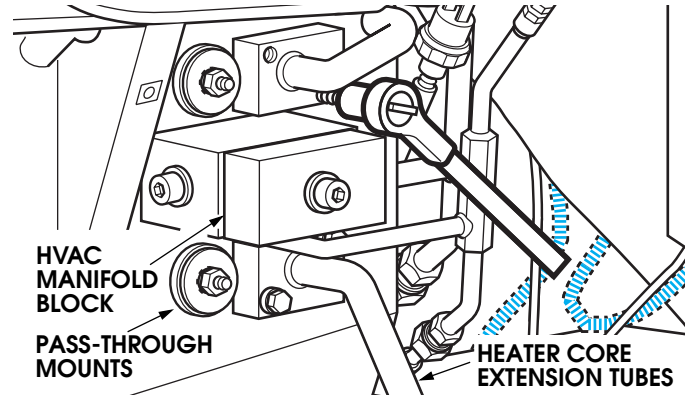

Figure 11-87: Pass-Through Fastener Removal
- 17. Remove bolt securing HVAC manifold block to Expansion Valve and discard sealing gasket. Cap all openings (Figure 11-87).
- 18. Remove 2 nuts, washers, and grommets from pass-through mounts (Figure 11-87).